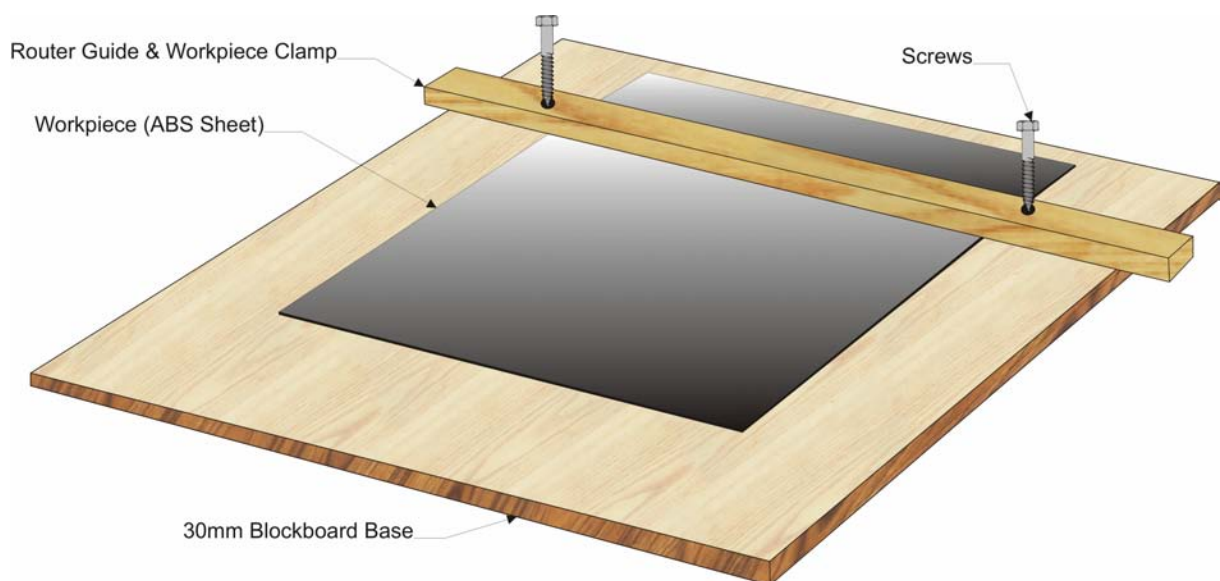

Figure 1 - Routing Fixture
- Clamp ABS sheet to smooth flat work surface and set-up straight router guides for the long cuts (along film slot) – for a suitable routing fixture see Figure 1.